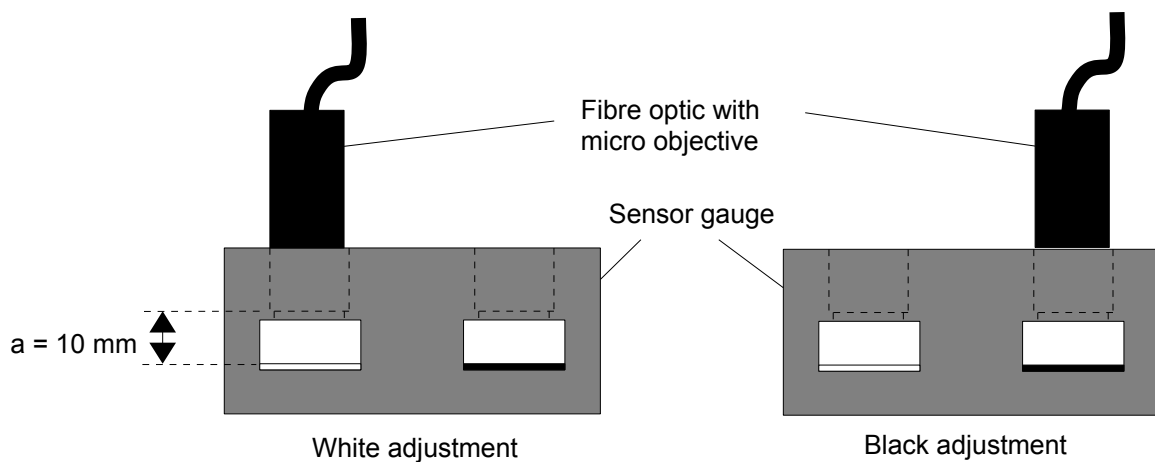

Figure 5.1: Sensor Adjustment overview
The Sensor Adjustment (SA) is carried out by means of a special sensor gauge and consists of two steps, the white adjustment (Increase) and the black adjustment (Threshold) as displayed in fig. 5.1.